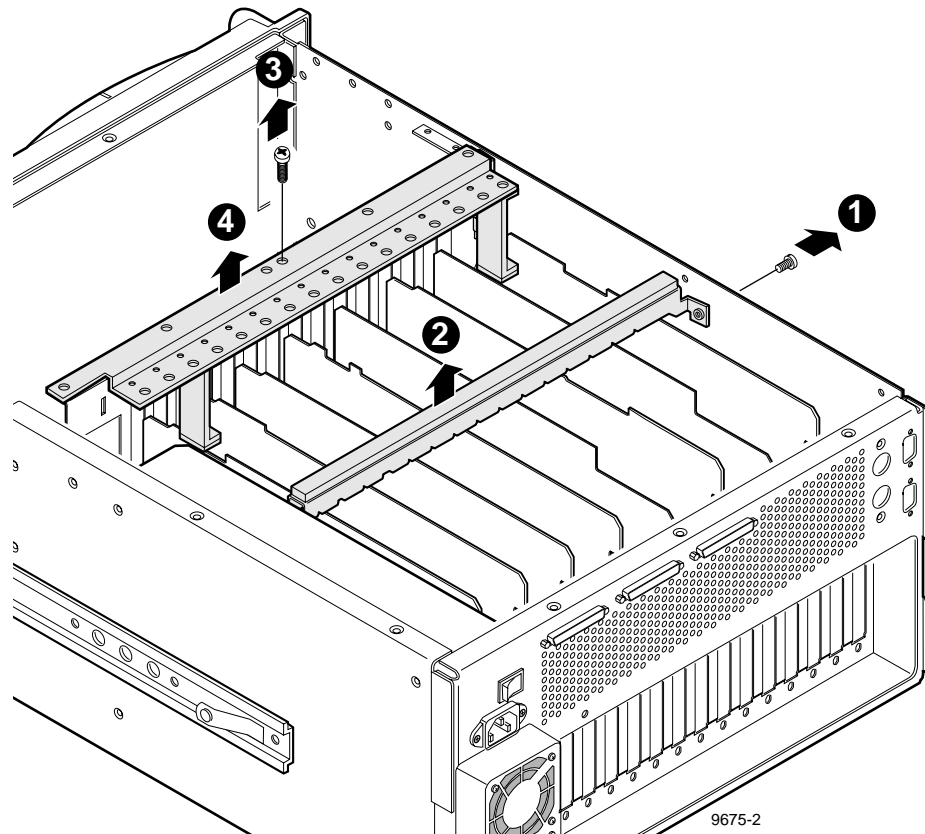

Figure 2. Removing the Circuit Board Hold-downs
There are two hold-down brackets located in the circuit board area that must be removed in order to remove and replace circuit boards. Figure 2 shows these brackets.
1. Use the Torx tool with the T10 tip to remove the screw (❶ in Figure 2) which secures the rear hold-down bracket.
2. Lift the hold-down bracket (❷ in Figure 2) up and out of the chassis and set it aside.
3. Use the Torx tool with the T10 tip to remove the screw (❸ in Figure 2) which secures the front hold-down bracket.
4. Lift the hold-down bracket (❹ in Figure 2) up and out of the chassis and set it aside.